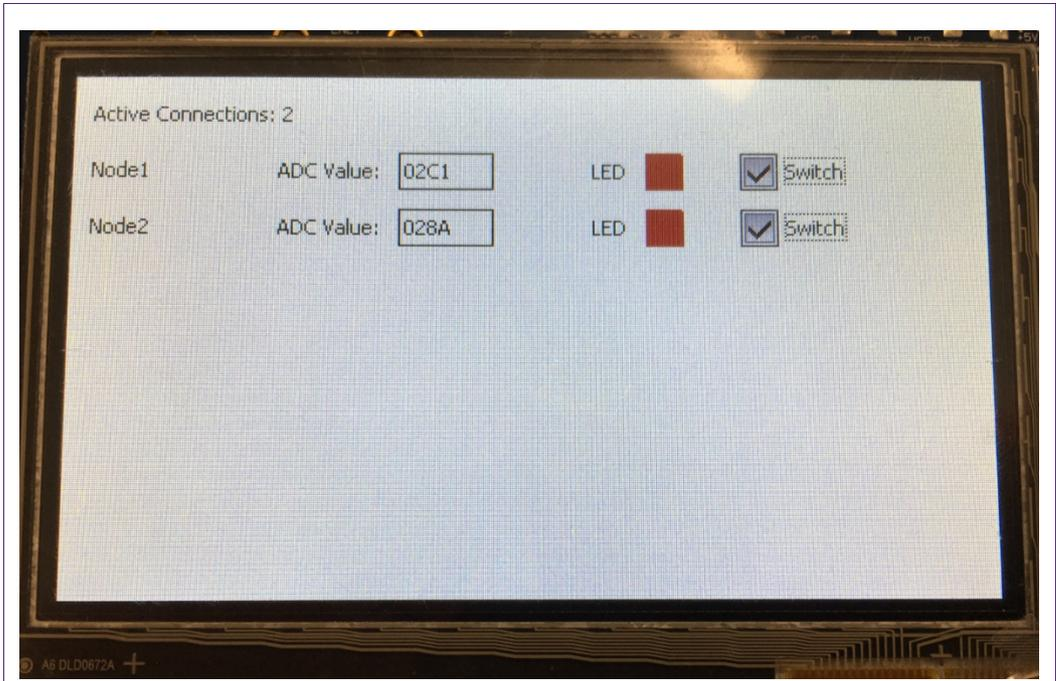

Fig 2. GUI display on server connected to two clients
- Fig 2. GUI display on server connected to two clients 4